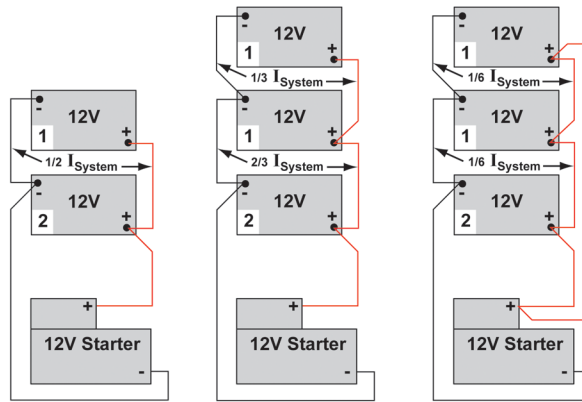

Figure 12-4: Parallel Battery Connection Cables – Carried Current
- For batteries that are in parallel, the connection cables only carry a portion of the full amperage of the system, depending on their location. The resistance of each connection cable must be multiplied by the fraction of amperage carried with respect to the total amperage of the system, before being added to the system resistance (see Figure 12-4).